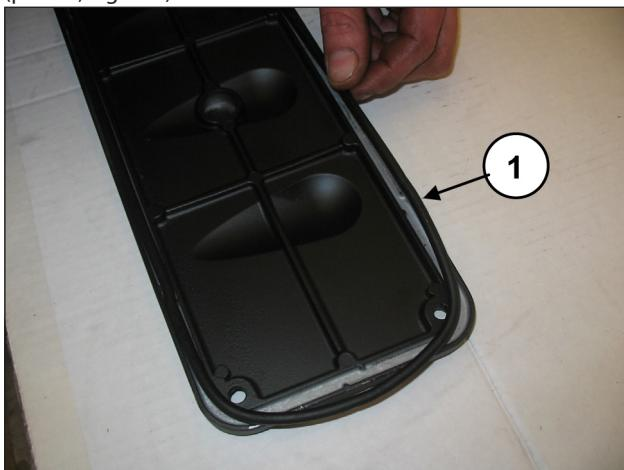
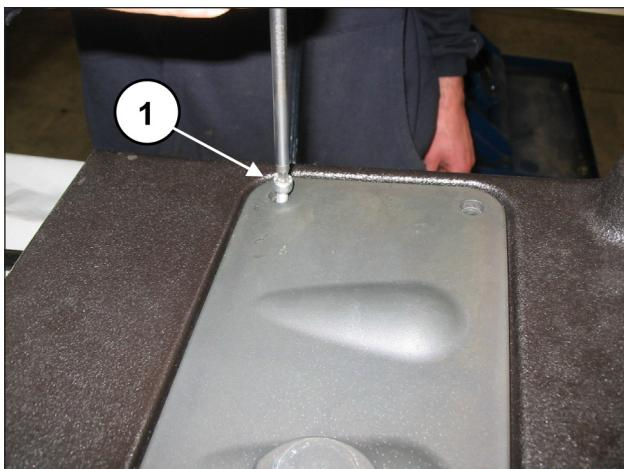

Fig. 163
Fig. 164
On the inspection covers insert the O-ring (pos. ①, Fig. 163) and assemble the covers with the use of 4+4 M6x14 screws (pos. ①, Fig. 164).